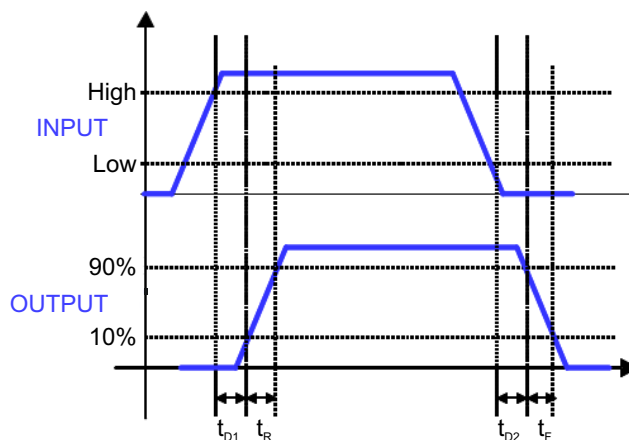

Figure 6-1. Timing Diagram: (OUTH Tied To OUTL) Input = IN, Output = OUT (EN = VDD) Or Input = EN, Output = OUT (IN = VDD)
(1) Ensured by design and tested during characterization. Not production tested.
(2) See Figure 6-1.